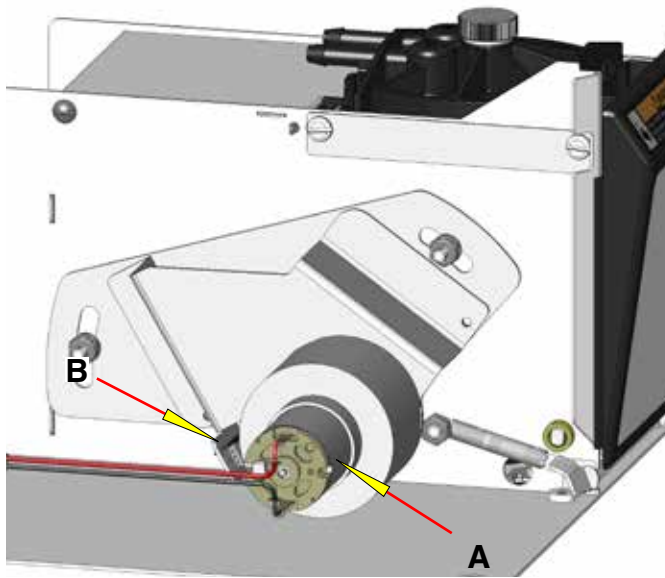

**FIG. 18-2 FLOW METER - AutoPod**
2. With a DC voltmeter, check voltage across the two wires at J9 on control board (Black probe to black wire, red probe to white wire. refer to FIG 18-2). Connect the brewer to the power source. The indication should be *approximately* between 4vdc cool to 1vdc at ready temperature.